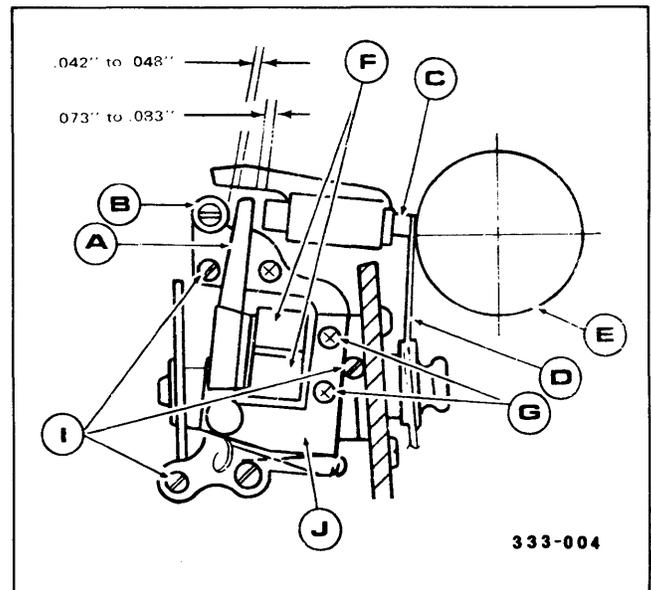

Figure 3-28. Hammer Adjustments
3.4.1.4.6 **Hammer.** There are two hammer adjustments: hammer coil position and armature stop eccentric. These adjustments are simplified when tool no. 40796 is used, but they can be performed without it if necessary. Refer to Figures 3-28 and 3-29.